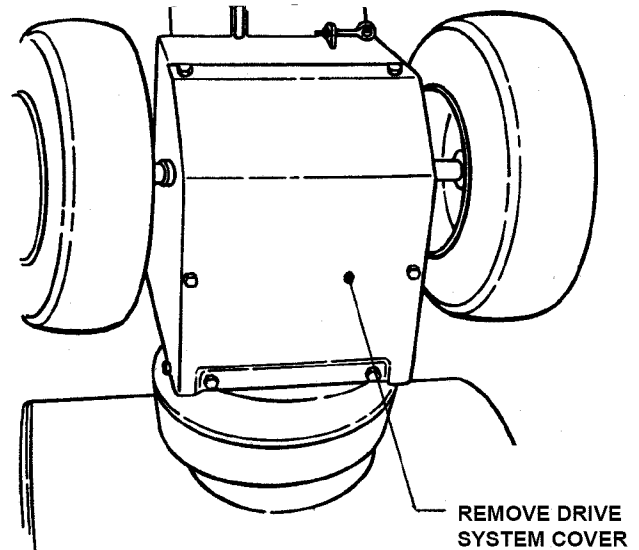

FIGURE 4.5
5. Tilt machine forward to gain access to drive system area. Secure machine in the tilted position to prevent tipping over. Remove drive system cover plate. See Figure 4.5.
1. Tilt machine forward to gain access to drive system area. Secure machine in the tilted position to prevent tipping over. Remove drive system cover plate. Refer to Figure 4.5.